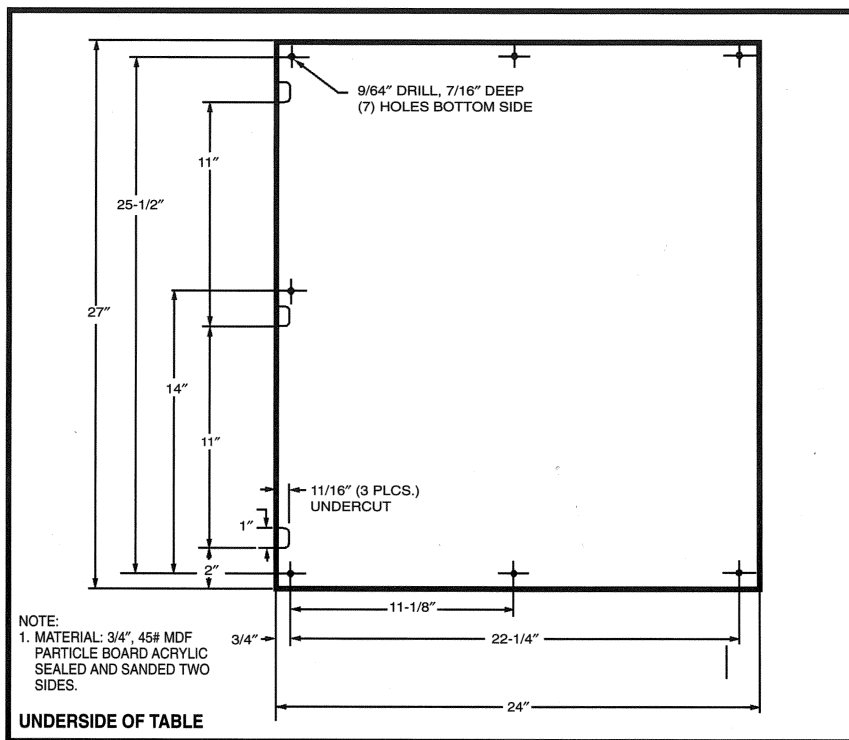
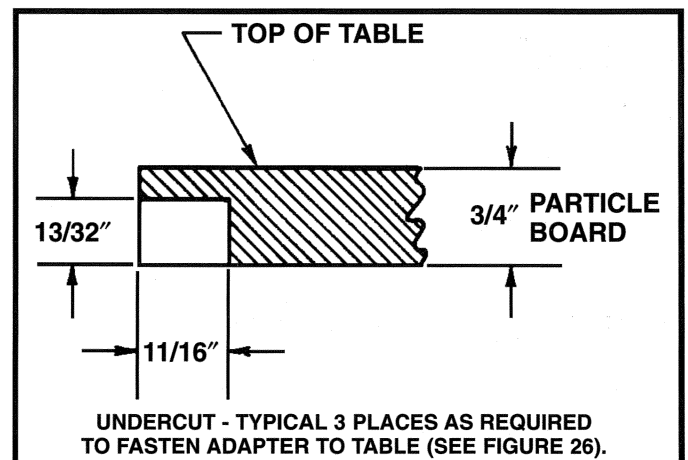

Fig. 26
Fig. 27
1. A 24" long by 27" wide table should be constructed using 3/4 inch material by following the dimensions shown in Fig. 26.
2. Seven 9/64 inch diameter holes must be drilled 5/8 inch deep in the bottom side of the table. These seven hole locations are shown in Fig. 26.
3. Three undercuts must also be made on the bottom left side of the table. The location of these undercuts are shown in Fig. 26. The size of the undercuts are shown in detail in Fig. 27.